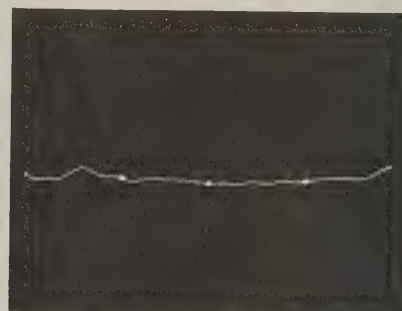

Figure 4-16. Typical Display
- Oscilloscope display should be similar to typical display shown in Figure 4-16.